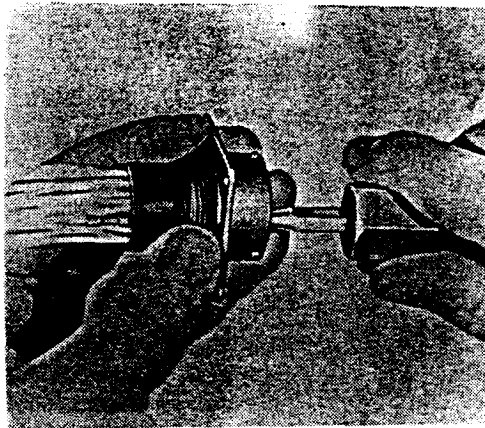

Figure 3-2.
- d. Working from the front face of the connector, push contacts back through the grommet as shown in figure 3-2. For size 16 contacts, use the 11-3697 tool (blue band) for pins and 11-3698 tool (blue band) for sockets. Size 20 pins are removed with tool 11-6783 (red band) and sockets with tool 11-6784 (red band).